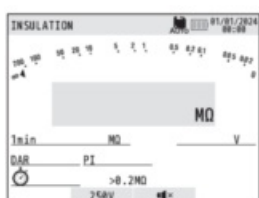

Fig. 15-4
1. Hold down (1 sec. or longer) the MEM switch in the stand-by mode. (Fig. 15-4)